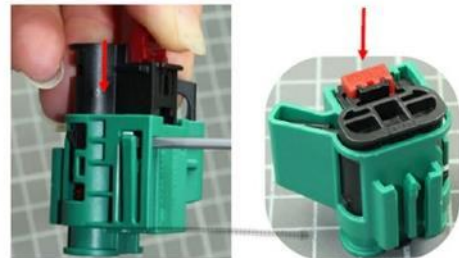

Figure 35 – HVDL
- b) Remove the lockout device from the service lockout loop of the green High Voltage Disabling and Lockout (HVDL) connector at the High Voltage Test and Service Module (HVTSM) (Figure 35).
- c) Using a small screwdriver or probe, release the green locking lever and depress the black jumper fully back into the socket (Figure 35).
- d) Depress the red CPA lock (Figure 35).
- e) Replace the cover on the orange test point connector of the HVTSM (Figure 35).